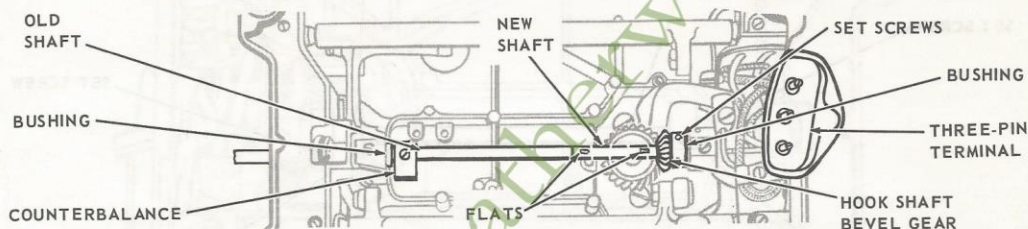

Fig. 40. Removing Hook Shaft
3. Loosen counterbalance set screw and hook shaft bevel gear set screws. (See Fig. 40.)
4. Remove screw holding the three-pin terminal, Fig. 40, and carefully push aside the wiring to expose right end of hook shaft.
5. Using new shaft as a tool, push old shaft out through left end of machine. Make certain that the inserted end of the new shaft presents the flats, Fig. 40, on which the rotary hook set screw and counterbalance set screw, respectively, are to be tightened.